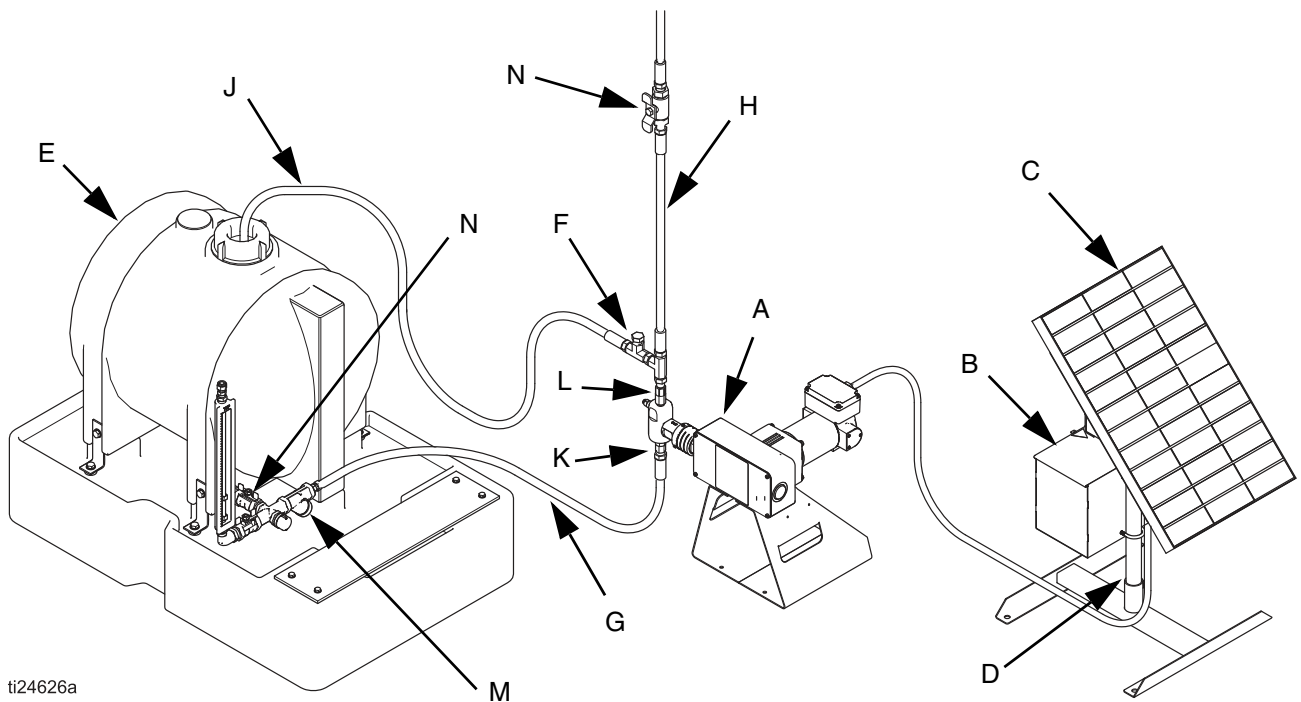

FIG. 2 Typical Installation with a Solar Panel
Install the following required accessories in the order shown in FIG. 2, using adapters as necessary. See **Kits and Accessories** starting on page 48.
FIG. 2 is an example of an installation with a Wolverine chemical injection pump. Your installation may differ from what is shown here. The Wolverine pump (A) is the only component in FIG. 2 supplied by Graco. All other components are supplied by customer.
- If you have a mounting configuration that requires installation in a manner different than depicted in FIG. 2, please contact your Graco distributor for assistance.
2. Connect a 1/4 npt(f) fluid line from the fluid source to the inlet check valve (K). See FIG. 2 on page 20.
3. Install a pressure relief valve (F) on the outlet side of the pump.